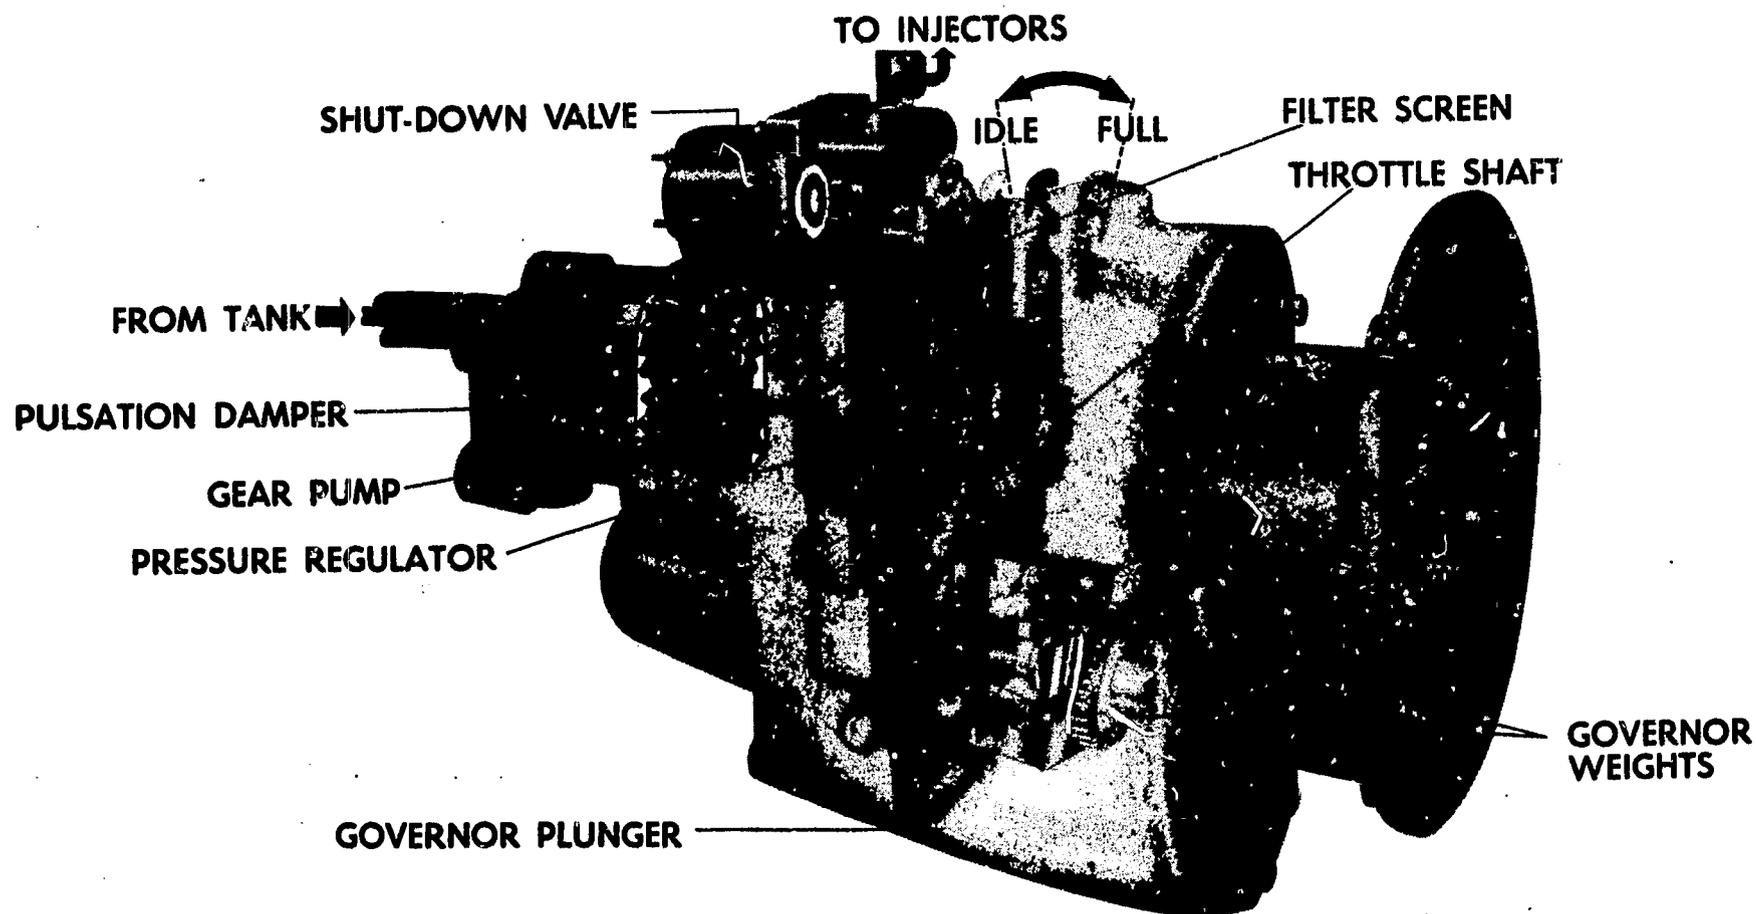

Fig. 5 Fuel flow through PTR fuel pump.
1. In the PTR pump, to the pressure regulator assembly as shown in Figure 5.
PRESSURE REGULATOR -- The pressure regulator, used only in the PTR fuel pump, functions as a bypass valve to regulate the fuel pressure to the injectors. Bypassed fuel flows back to the suction side of the gear pump, see Figure 5.